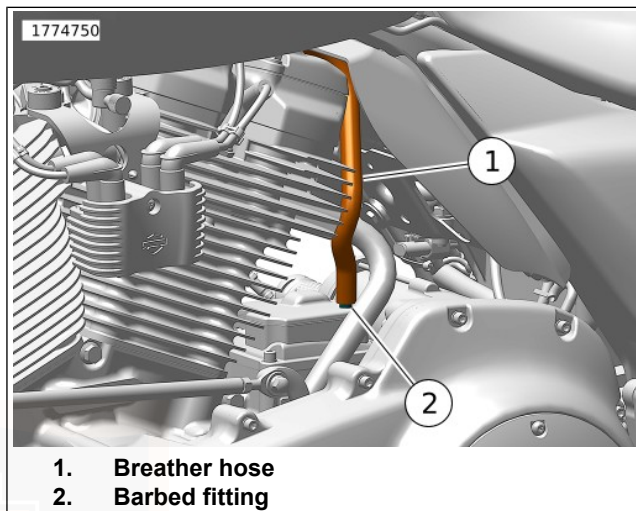

Figure 103. Breather Hose
1. See Figure 103. Pull breather hose (1) straight up off barbed fitting (2) on top of transmission.